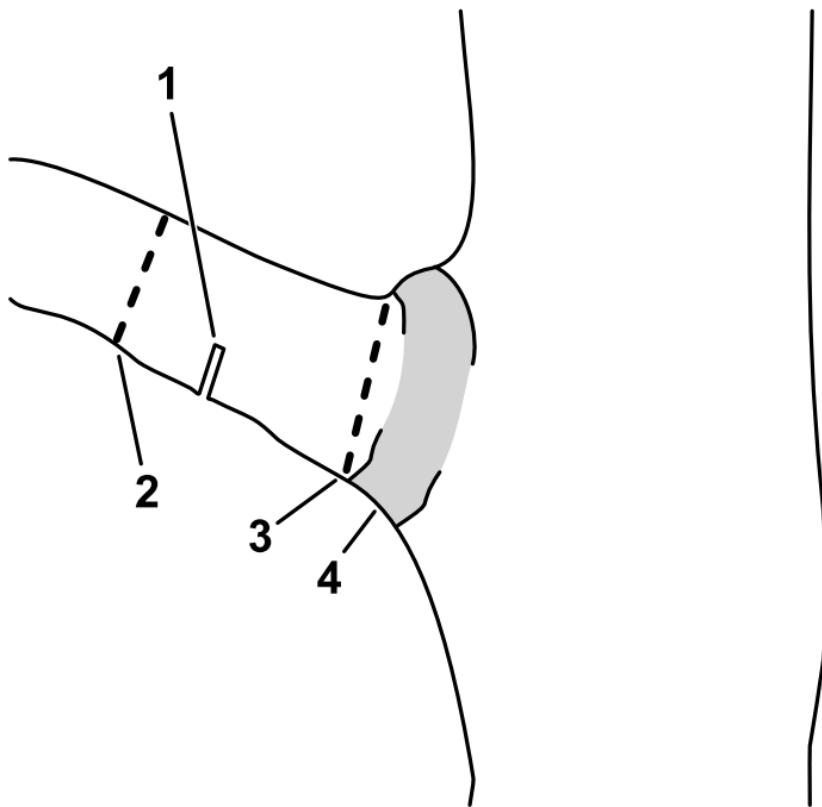

Figure 11
3. **C.** Cut the limb stub at the branch collar (**Figure 11**).